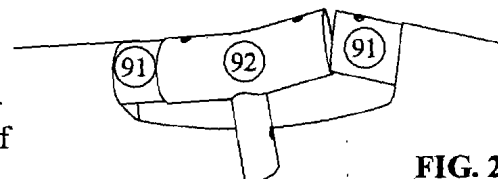
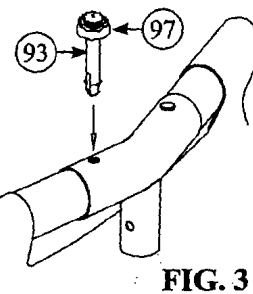

FIG. 2
FIG. 3
3. When you get to the last connection, install the last Tee Fitting on the end of one of the beams. Lift up on both of the last two Beams in order to get them to insert into the Tee Fitting. Angle them towards each other and guide the Beam into the Fitting as you lower them both down together. See Fig. 2. This step may require two people. Now, begin inserting the Pins (93) / Grommets (97) down through the top of the Tee Fittings until the Pin snaps into place on the lower side of the Fitting as shown in Fig. 3.